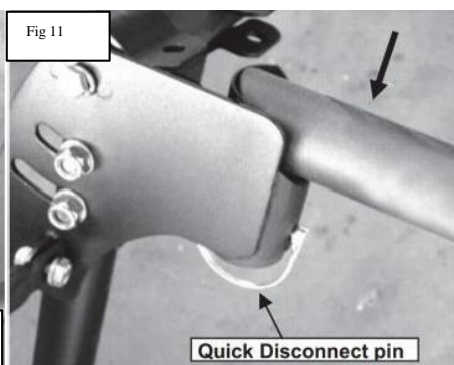

Fig 11
4. Attach Rear Cross Bar to Quick Disconnect Cross bar brackets using the supplied Quick Disconnect pins. (Fig 11) Repeat step 4) for opposite side.